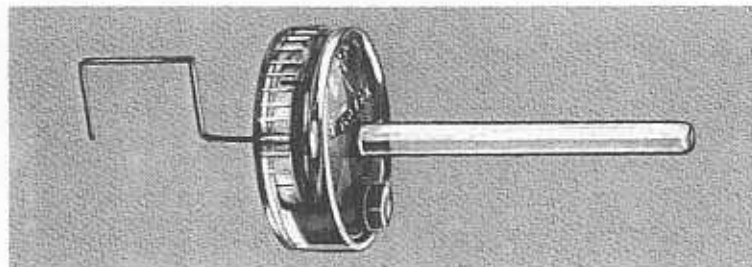

Fig. 10
3. If necessary, correct the rate by means of the timing screws with the new Microstella key Ref. 2019 (fig. 10).